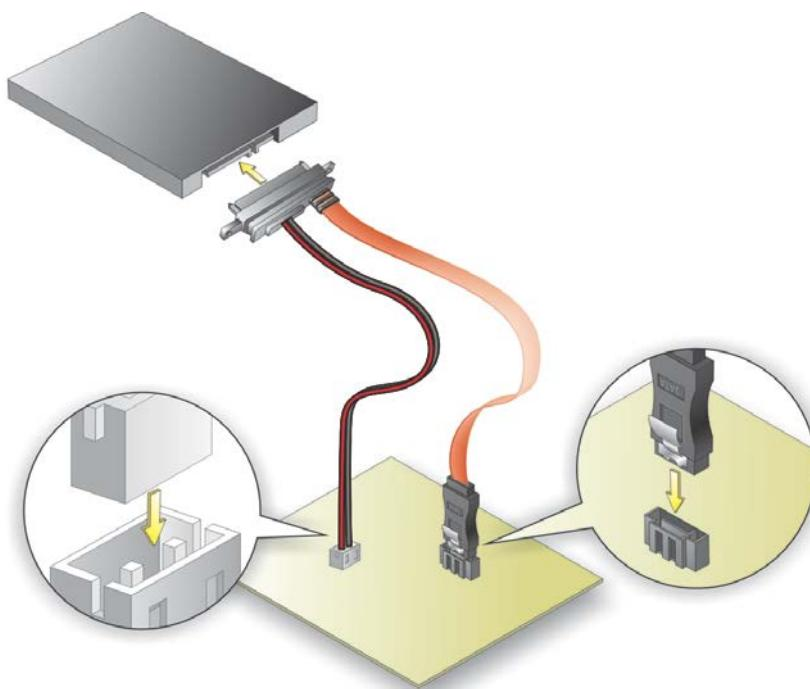

Figure 4-20: SATA Drive Cable Connection
Step 2: **Insert the cable connector.** Insert the cable connector into the on-board SATA drive connector and the SATA power connector. See Figure 4-20.
Step 3: **Connect the cable to the SATA disk.** Connect the connector on the other end of the cable to the connector at the back of the SATA drive. See **Figure 4-20**.